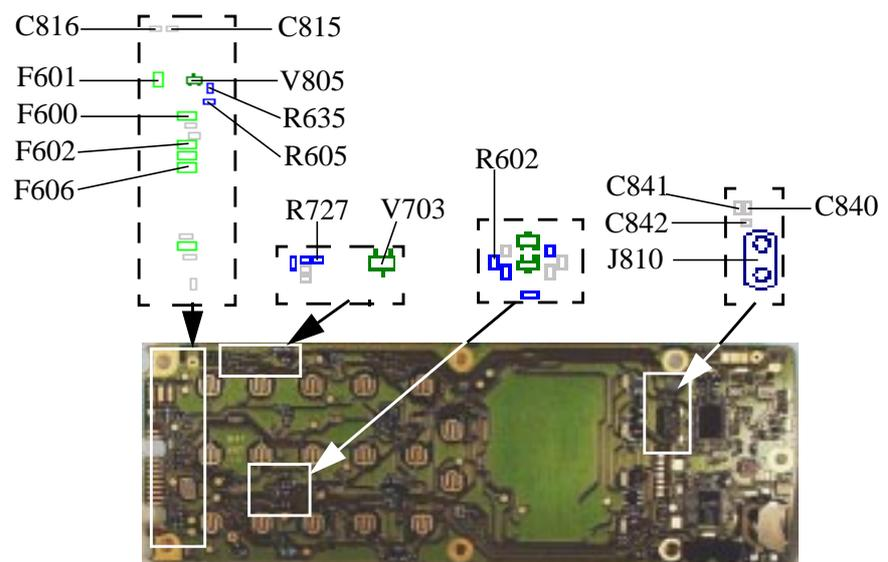
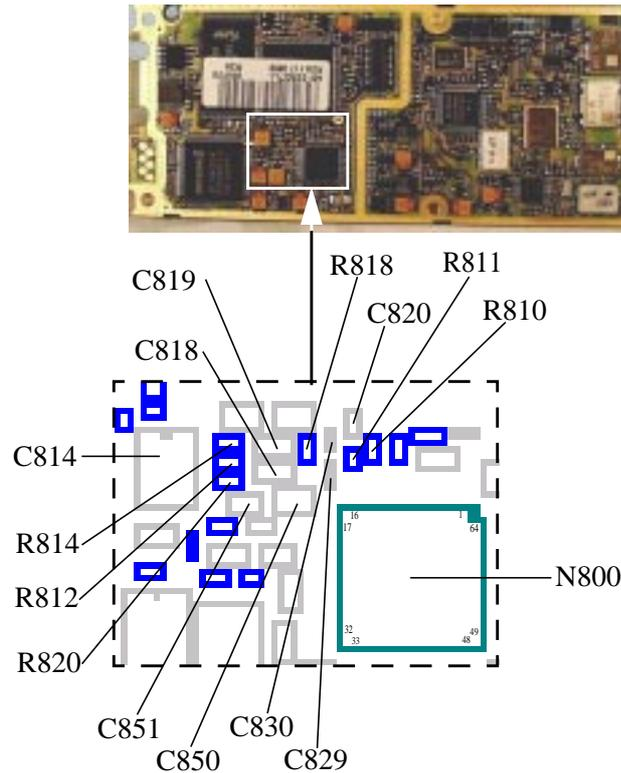
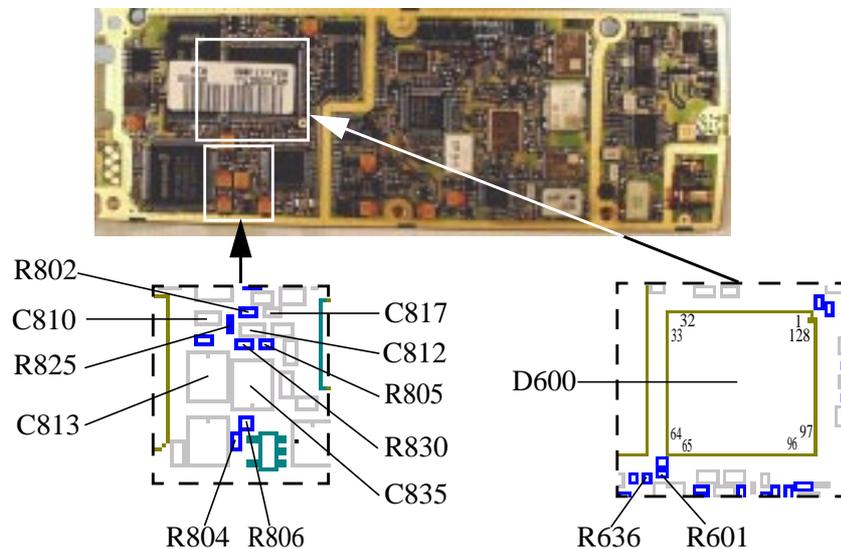

Fig. 4.1
Fig 4.2
Fig 4.4
Open the phone and check for liquid damages. If there are no, change the front cover and try again. If the fault remains, replace J810 (Fig 4.1, class A) and try again.
Check the solderings on N800:24 and 26 (Fig 4.2). If they are good, measure the resistance between the connection J810 and ground and also between the two pegs on the connection. If the resistance to ground is lower than 25 kOhm, then replace C840 and C841(both class A, Fig 4.1). If the resistance between the two pegs is lower than 50 kOhm, replace C842 (class A, Fig 4.1). If the fault still remains, send the phone to next repair level.
If the fault remains, check the solderings on N800:13-18(Fig 4.2). If they are good, measure the resistance of C850 (>100 kOhm, class A, Fig 4.2), C851 (>1 kOhm, class A, Fig 4.2), C829 and C830 (>100 kOhm, Both are class A, Fig 4.2) and over C818 and C819 (>100 kOhm, both are class A, Fig 4.2). Measure the resistance of C815 (Fig 4.1), if the resistance are below 50 kOhm than replace C815 and C816 (both are class A, Fig 4.1). Measure the resistance of R818 (Fig 4.2), the resistance should be larger than 10 kOhm, if it is lower replace R818 and C820 (both are class A, Fig 4.2). Measure the resistance of R810 (1 kOhm, class A, Fig 4.2), R811 (1kOhm, class A, Fig 4.2), R812 (1,5 kOhm, class A, Fig 4.2), R814 (470 ohm, class A, Fig 4.2) and R820 (1,5 kOhm, class A, Fig 4.2). If the resistance of R820 is too low after R820 has been replaced, replace V805 (class A, Fig 4.1). Measure the resistance of C814 (>100 kOhm, class A, Fig 4.2). If the fault remains, send the phone to next repair level.
Check the connection surface at the system connector. If they are fine, open the phone and check for liquid damages, especially at the system connector pads. Check the solderings on N800:22 (Fig 4.2). Measure the resistance of R804 (Fig 4.4), if the resistance is lower than 50 kOhm replace F601 (class A, Fig 4.1). If that doesn't work then replace R804 (class A, Fig 4.4). Measure the resistance of R806 (100 Ohm, class A, Fig 4.4) and C813 (>100 kOhm, class A, Fig 4.4). If the fault remains, send the phone to next repair level.
Check the connection surface at the system connector. If they are fine, open the phone and check for liquid damages, especially at the system connector pads. Check the solderings on N800:19 (Fig 4.2). Measure the resistance of R825 (3.3 kOhm, class A, Fig 4.4), R830 (470 Ohm, class A, Fig 4.4), R802 (3.9 kOhm, class A, Fig
4.4) and R805 (15 kOhm, class A, Fig 4.4). Measure the resistance of C835 (>1 kOhm, class A, Fig 4.4) och C817 (>100 kOhm, class A, Fig 4.4), C810 (>10 kOhm, class A, Fig 4.4) and C812 (>100 kOhm, class A, Fig 4.4). If the fault remains, send the phone to next repair level.
Check the connection surface at the system connector. If they are fine, open the phone and check for liquid damages, especially at the system connector pads. Check the solderings on D600:67 and 70 (Fig 4.4). Measure the resistance of R635 (22 kOhm, class A, Fig 4.1) and R636 (22 kOhm, class A, Fig 4.4). Measure the resistance of R601 (1 kOhm, class A, Fig 4.4) and R605 (1 kOhm, class A, Fig 4.1). If the fault remains replace D600 (class B, Fig 4.4), if that doesn't help - send the phone to next repair level.
Check the connection surface at the system connector. If they are fine, open the phone and check for liquid damages, especially at the system connector pads. Check the solderings on D600:67 and 70 (Fig 4.4). Measure the resistance of EXTAUD (Fig 4.5) to ground, if the resistance is lower than 10 kOhm, replace F600 (class A, Fig 4.1).
Measure the resistance of PORTHF (Fig 4.5) to ground, if the resistance is lower than 10kOhm, replace F602 (class A, Fig 4.1). Measure the resistance of R635 (22 kOhm, class A, Fig 4.1) and R636 (22 kOhm, class A, Fig 4.4). Measure the resistance of R601 (1 kOhm, class A, Fig 4.4) and R605 (1 kOhm, class A, Fig 4.1). If the fault still remains, replace D600 (class B, Fig 4.4). If that doesn't help, send the phone to next repair level
Open the phone and check for liquid damages. Power up the board. Check VDIG and VDSP (both should be 3.2V, Fig 4.6). If one of the values are incorrect then proceed to chapter 3 ("Doesn't start"-fault). Check VDSPC (should be 2,5V, Fig 4.2). If
VDSPC is too low, then measure the resistance to ground. If the value is lower than 10 kOhm, then replace, one by one and check the resistance between, C903 (Fig 4.6), C904 (Fig 4.6), C905 (Fig 4.6), R727 (Fig 4.1) and D900 (Fig 4.6), all of them are class A. If VDSPC is too low and the resistance to ground are larger than 10 kOhm, then replace V703 (class A, Fig 4.1). If the feed voltages are correct, then check the solderings on D600 (Fig 4.4), D900 (Fig 4.6) and N800(Fig 4.2). If the solderings are correct, then first replace D900 (class A, Fig 4.6) and try again. If that didn't help, then replace D600 (class B, Fig 4.4). If the fault still remains, send the phone to next repair level.
Check the connection surface at the system connector. If they are fine, open the phone and check for liquid damages, especially at the system connector pads. Check the solderings on D600:69 (Fig 4.4). Measure the resistance of R602 (470 ohm, class A, Fig 4.1). Measure the resistance MUTE (Fig 4.5) to ground. If the resistance is lower than 100 kOhm, then replace F606 (class A, Fig 4.1). If the resistance is correct, then replace D600 (class B, Fig 4.4). If the fault remains, send the phone to next repair level.
Check the connection surface at the system connector. If they are fine, open the phone and check for liquid damages, especially at the system connector pads. Power up the board. Check VDIG and VDSP (both should be 3.2V, Fig 4.6). If any of the voltages incorrect, proceed to chapter 3 ("Doesn't start"-fault). Check VDSPC (Should be 2.5V, Fig 4.6). If VDSPC is too low then measure the resistance to ground. If the value is lower than 10 kOhm, then replace, one by one and check the resistance between, C903 (Fig 4.6), C904 (Fig 4.6), C905 (Fig 4.6), R727 (Fig 4.1) and D900 (Fig 4.6), all of them are class A. If VDSPC is too low and the resistance to ground is larger than 10 kOhm, then replace V703 (class A, Fig 4.1). If the feed
voltages are correct then check the solderings on D600 (Fig 4.4), D900 (Fig 4.6) and N800 (Fig 4.2). Measure the resistance of R703 (0 ohm, class A, Fig 4.6) and C850 (>100 kOhm, class A, Fig 4.2), C851 (>1 kOhm, class A, Fig 4.2). If the fault remains, send the phone to next repair level.